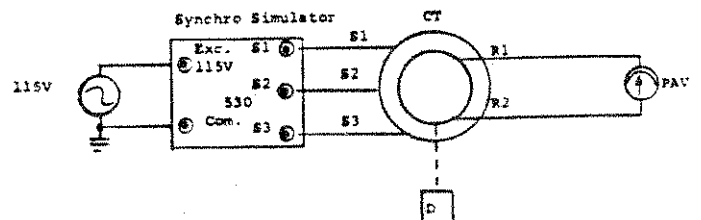

Figure 7-13. Null Test (CT)
- a. Set up equipment as shown in figure 7-13.